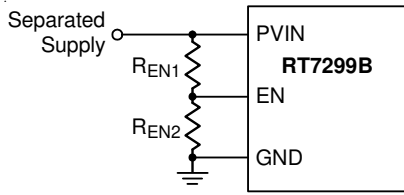
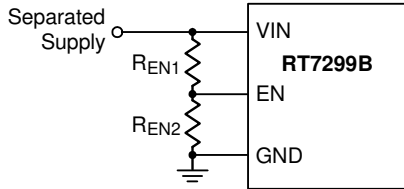
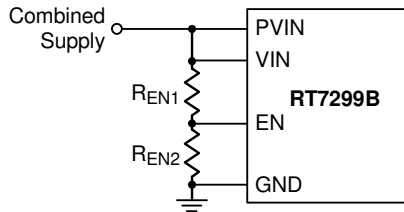

Figure 4. Resistor Divider for PVIN UVLO Setting
Figure 5. Resistor Divider for VIN UVLO Setting,
Figure 6. Resistor Divider for PVIN and VIN UVLO Setting
The EN pin can also be applied to adjust its Under-Voltage Lockout (UVLO) threshold with two external resistors divider from the both input VIN and PVIN pins used together or separately, and the application structures can refer to Figure 4, Figure 5, and Figure 6.
Under above application structures, the adjustable UVLO function of EN pin allows to achieve a secondary UVLO on PVIN pin, a higher UVLO on VIN pin or even a common UVLO on both VIN and PVIN pins. For example, if the EN pin is configured as Figure 5 and the output voltage is set to a higher value 10V. The device may shut down after soft-start sequence is over, and the reason for the result is that the V_{OUT} is still lower than its set target during the V_{IN} rising period even though V_{IN} has already risen to its internal UVLO threshold 4V. To prevent this situation, an adjustable UVLO threshold from EN pin is useful to avoid such high output transfer condition. The exact UVLO thresholds can be calculated by Equation (3). The setting V_{OUT} is 10V and V_{IN} is from 0V to 18V. When V_{IN} is higher than 12V, the device is triggered to enable the converter. Assume $R_{EN1} = 56k\Omega$. Then,